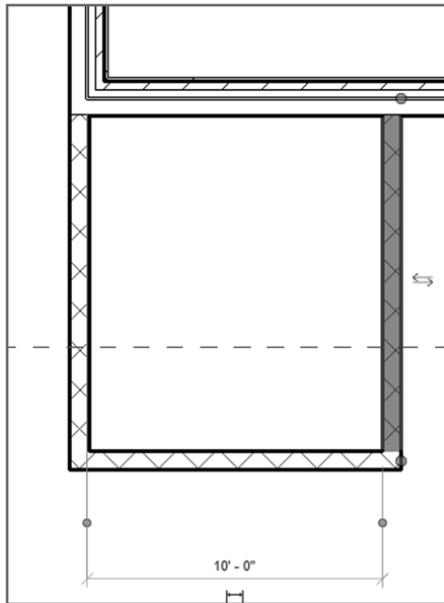

FIGURE 2.24: The selected wall is the wall that will move when you type the new dimension.
4. The actual increment in the dimension is blue. Select the blue dimension, type 10' (3000 mm), and press Enter. The wall that was selected moves to accommodate the new increment, as shown in Figure 2.24.